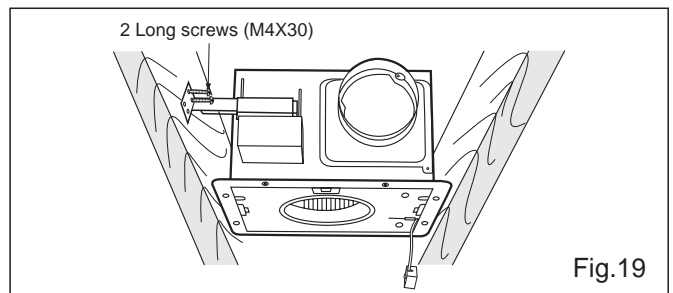

Fig.19
4. Secure the suspension bracket to joists by using long screws (M4X30) (Fig.19, Fig. 20 of page 13)